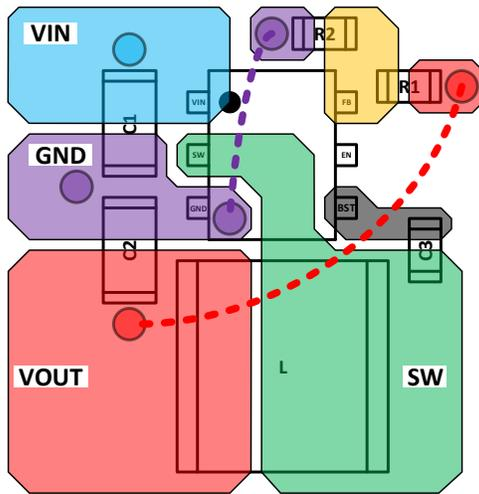

Figure 27. Recommended PCB Layout for SOT563 Package
9. See Figure 27 and Figure 28 for more details.